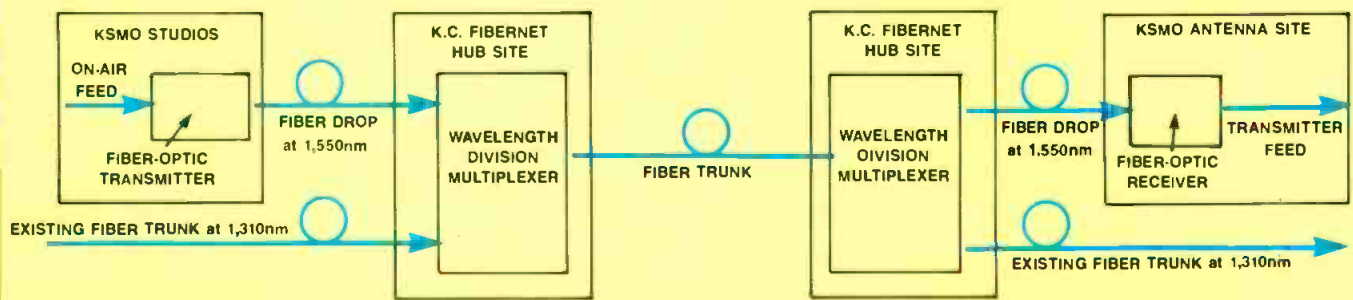

Figure 1. KSMO's fiber-optic STL used wavelength division multiplexing (WDM) to achieve a high-quality STL path at a low price.
K.C. Fibernet was charged with providing a specific level of optical performance for the KSMO STL. The company spliced two WDMs onto the fiber trunk cable. A fiber drop from one side of each WDM was pulled into KSMO's facilities and connectorized. This fiber link delivered a manageable loss budget, and a minimum of 40dB directivity (near-end isolation) for the WDM. (See Figure 1.)
As useful as fiber is, there will always be a place for satellites, microwave and coaxial cable in network signal distribution. One example is the *first and last mile*. Fiber is great going where it goes, as is a railroad track. However, when the desired destination is off the fiber path, the customer system must use other means to complete the journey. (See Figure 1.)